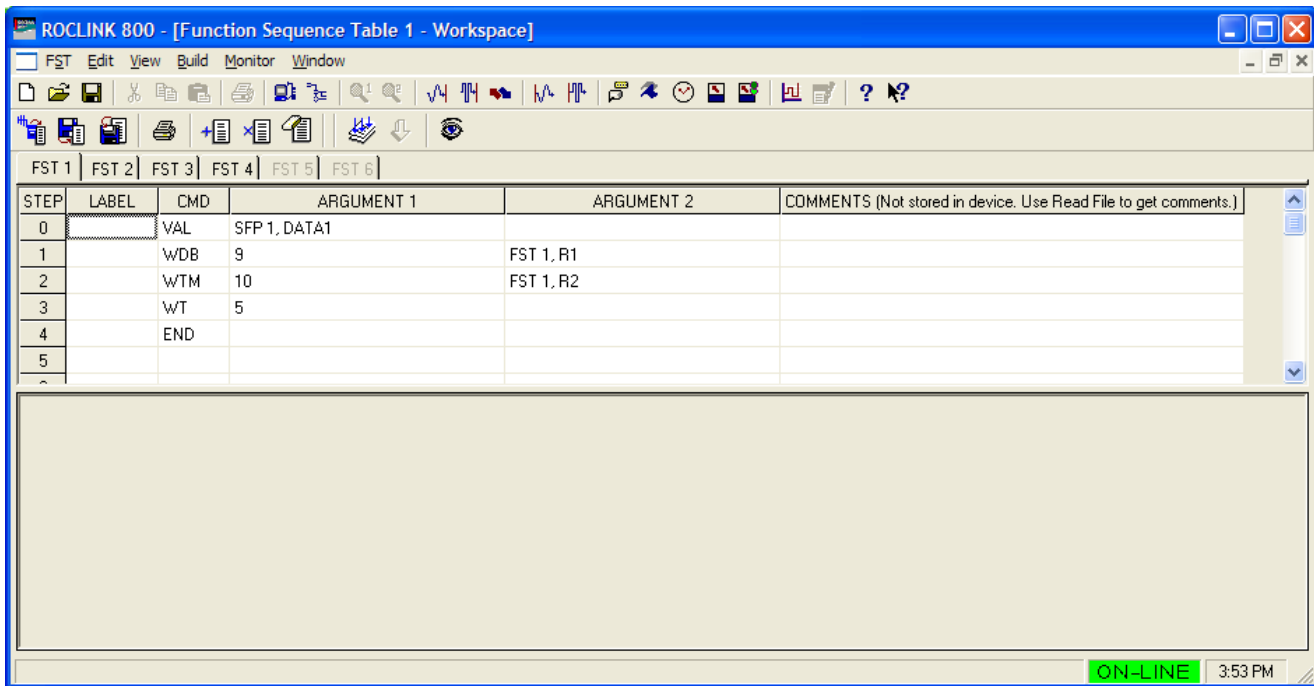

Figure 4-5 Sample FST
4. Complete steps 0 through 4 with the commands and arguments as shown in Figure 4-5: